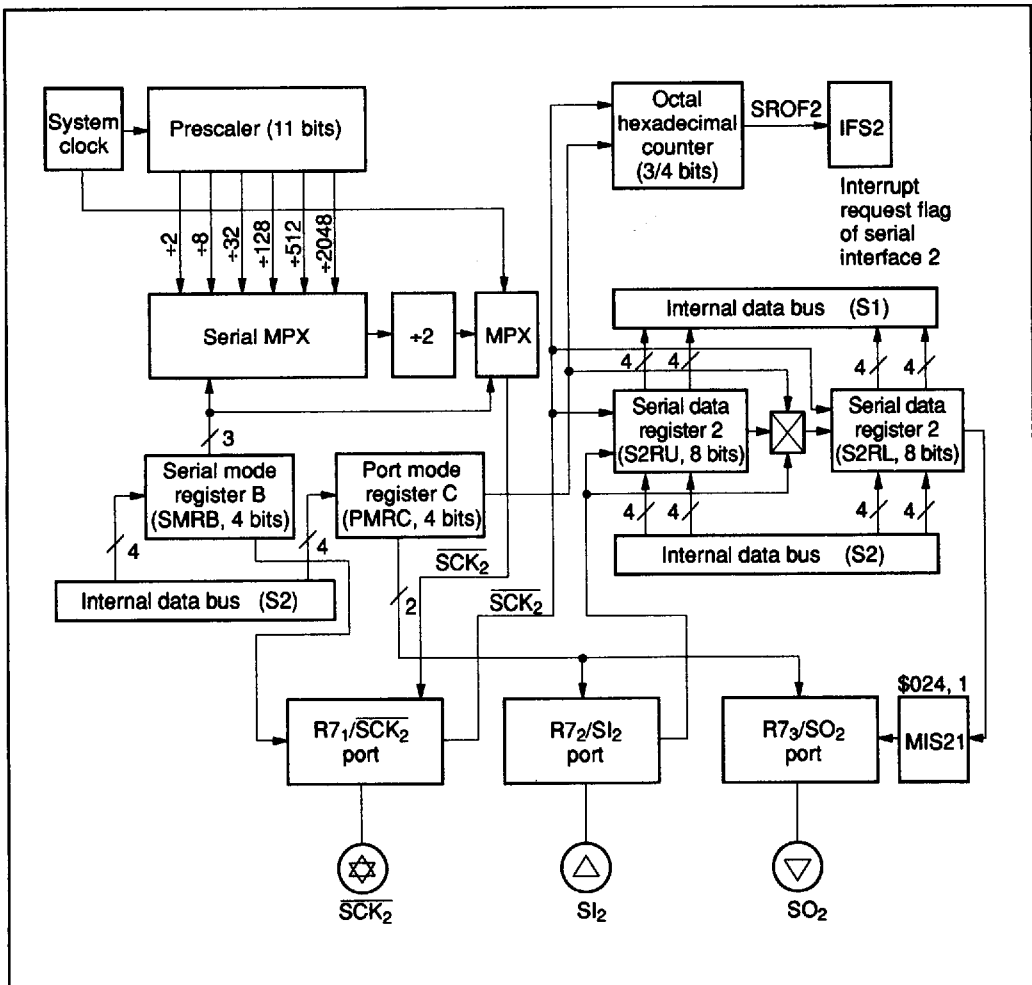

Figure 37 Serial Interface 2 Block Diagram
**Serial Interface 2:** Used to serially transmit and receive 8- or 16-bit data. It consists of a serial 2 data register (S2R), serial mode register B (SMRB), port mode register C (PMRC), miscellaneous register 2 (MIS2), octal/hexadecimal counter, and multiplexer as shown in figure 37. The  $R7_1/\overline{SCK}_2$  pin and the transmit clock are controlled by writing data to SMRB. The transmit clock shifts the contents of the S2R, which can be read and written to by software, and then transmission starts between two MCUs.